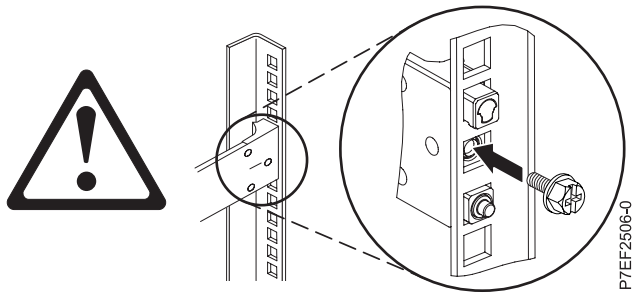

Figure 5. Reinstalling the screw
4. Reinstall the screw that was removed in step 2 on page 5, as shown in Figure 5 on page 7.